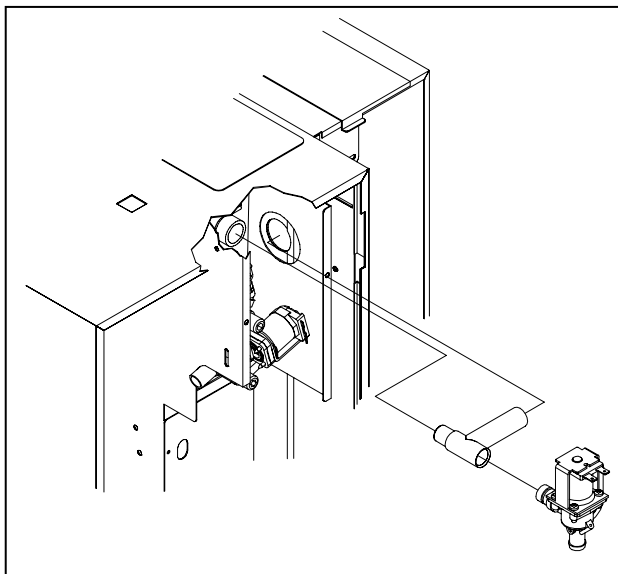

Figure 4 - Install the valve onto the new "T" inside the machine.
4. Inside the machine, install the chocolate valve onto the new "T" (*figure 4*).